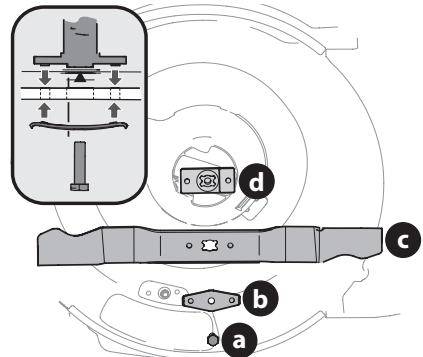

Figure 24
4. Remove bolt (a) and blade bell support (b) which hold the blade and the blade adapter to the engine crankshaft (Figure 24).
7. Lubricate the engine crankshaft and the inner surface of the blade adapter with light oil (Figure 24, inset).